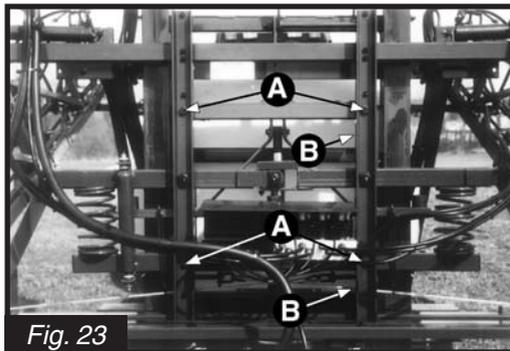

Fig. 23
2. Tighten the four adjustment bolts (A)(Fig. 23) approx. 1/2 turn.
1. Loosen jam nuts and tighten bolts (**B** behind slide bars)(Fig. 23) in approx. 1 turn.